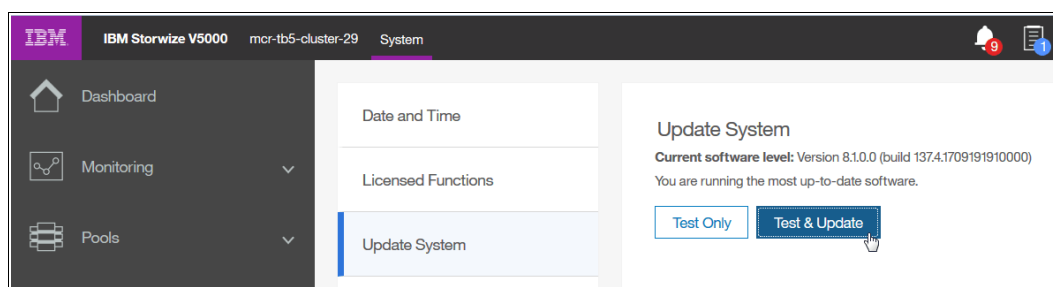

Figure 12-31 Update system panel
1. Browse to **Settings** → **System** → **Update System** and select **Test and Update**, as shown in Figure 12-31.